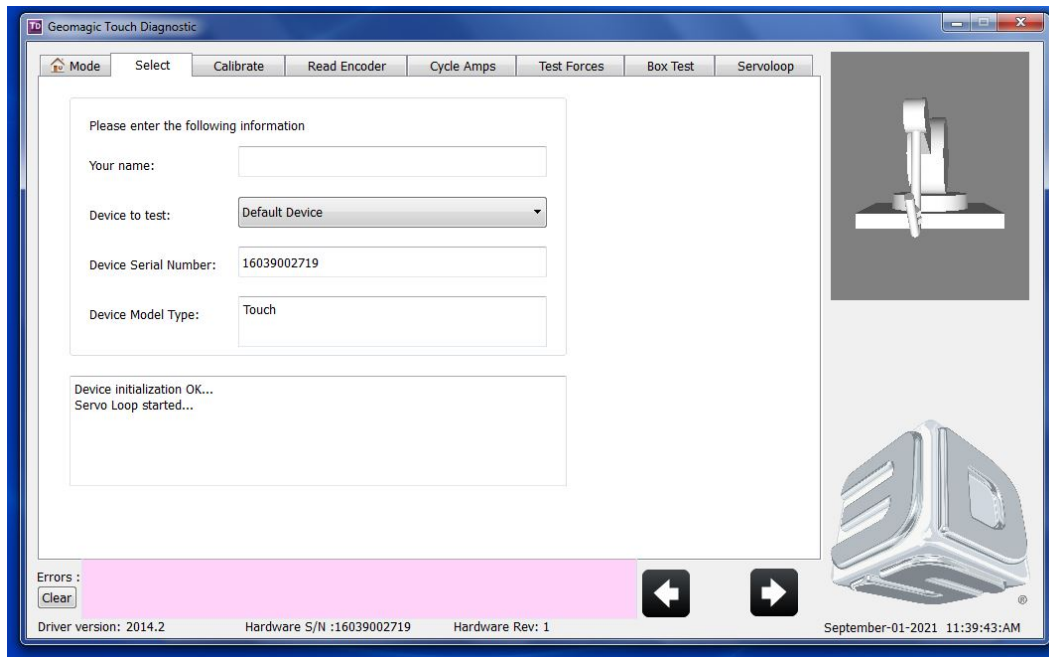

Figure 3: Geomagic Touch Diagnostic Tool. There is a 3D rendering of your robot arm in the top right. This should move in sync with your robot.
- When you open the application, you will see a tab at the top called **Select**. Click on this tab to see a small 3D model of your robot (shown in Figure 3). When you move the actual robot this 3D model should move as well. *If the 3D model is not moving when you move the robot ask a GTA for help.*